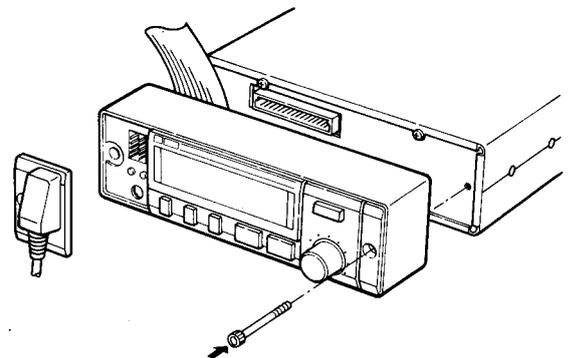

Fig. 3
- (4) Plug the CONTROL HEAD into the main body. (Fig 3.)